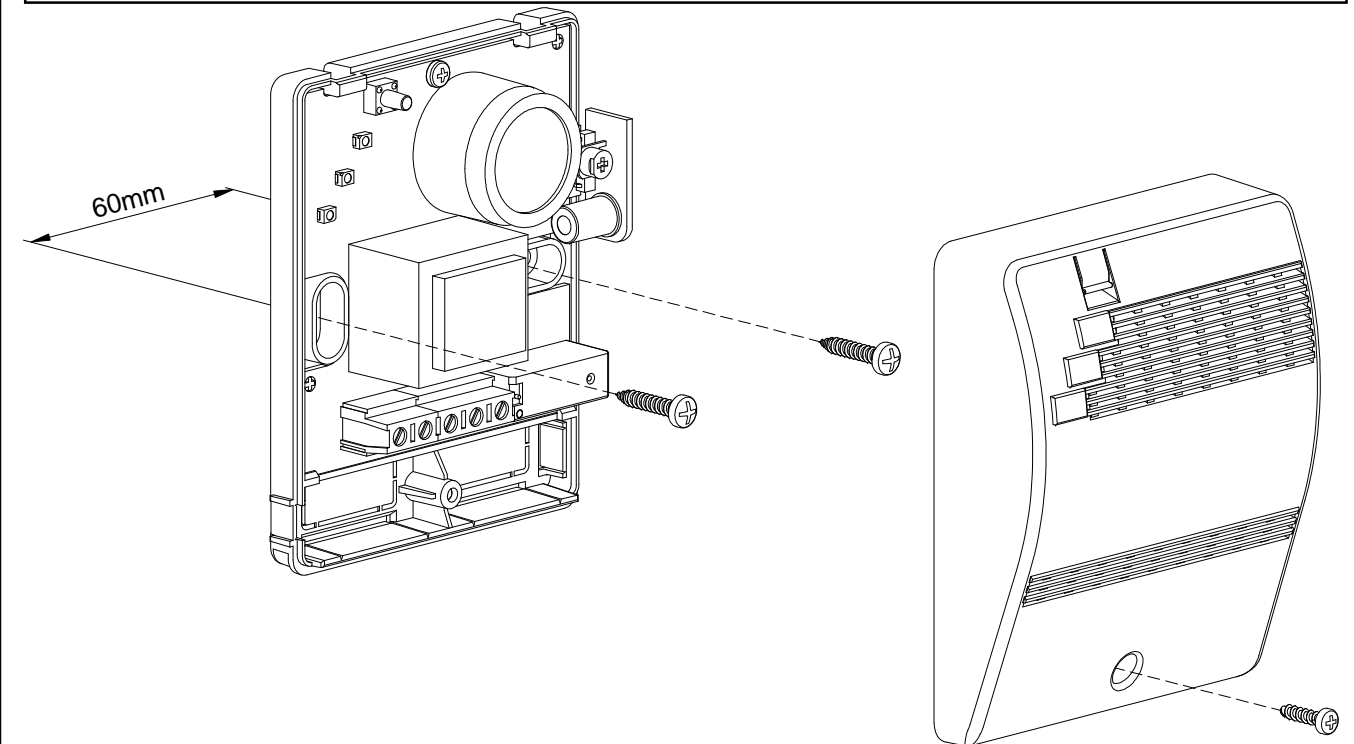

Fig. 2: Installation example of BEAGLE *plus* -.
3. Remove the detector's panel as shown in Fig. 2.
To access to the internal terminals, remove the front panel by loosening the screw (Fig. 2).